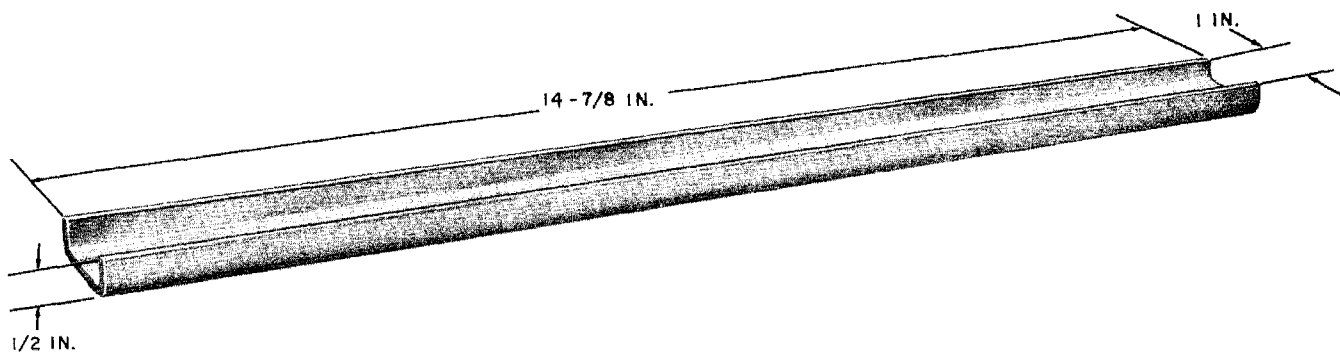

Fig. 3—P-48F349 Rail
(2) D-179940 Kit of Parts which includes:
- Two P-48F349 rails (Fig. 3)